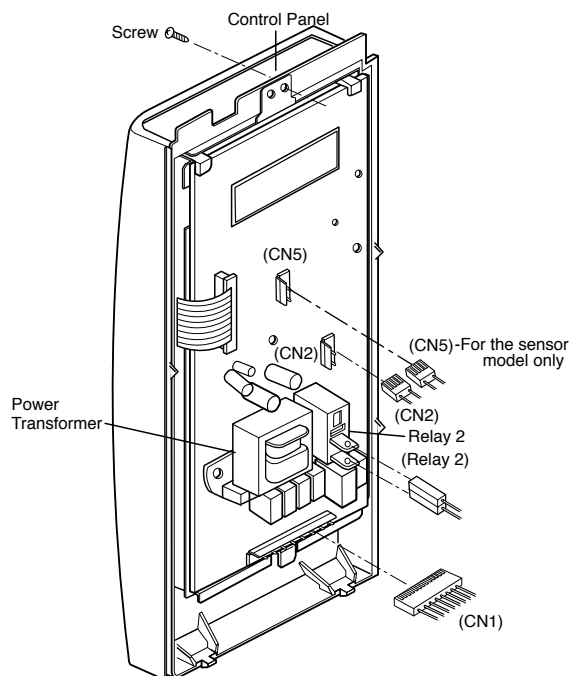

Figure 1
A. REMOVING POWER AND CONTROL CIRCUIT BOARD (Figures 1, 2 and 3)
- (1) Remove a screw securing the control panel assembly to the oven cavity.
- (2) Remove the control panel with pushing it upward.
- (3) Remove the three connectors (CN1, CN2, CN5) and wire leads (Relay2) from the circuit board.